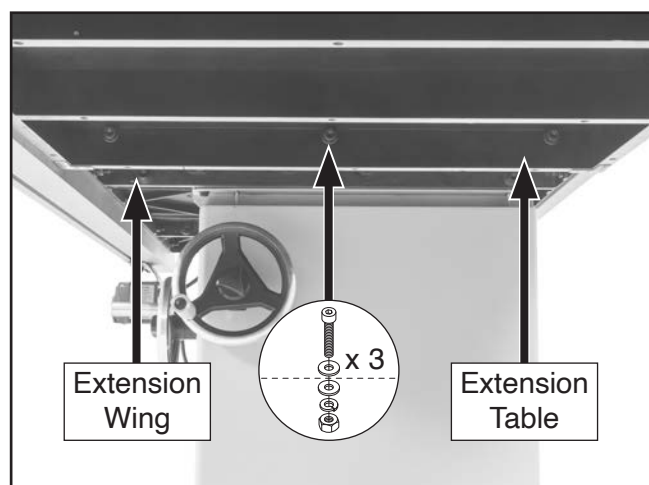

Figure 14. Location of fasteners used to attach extension table to extension wing.
18. Secure extension table to right extension wing with (3) M10-1.5 x 50 cap screws, (6) 10mm flat washers, (3) 10mm lock washers, and (3) M10-1.5 hex nuts (see **Figure 14**). Hand-tighten fasteners for now.